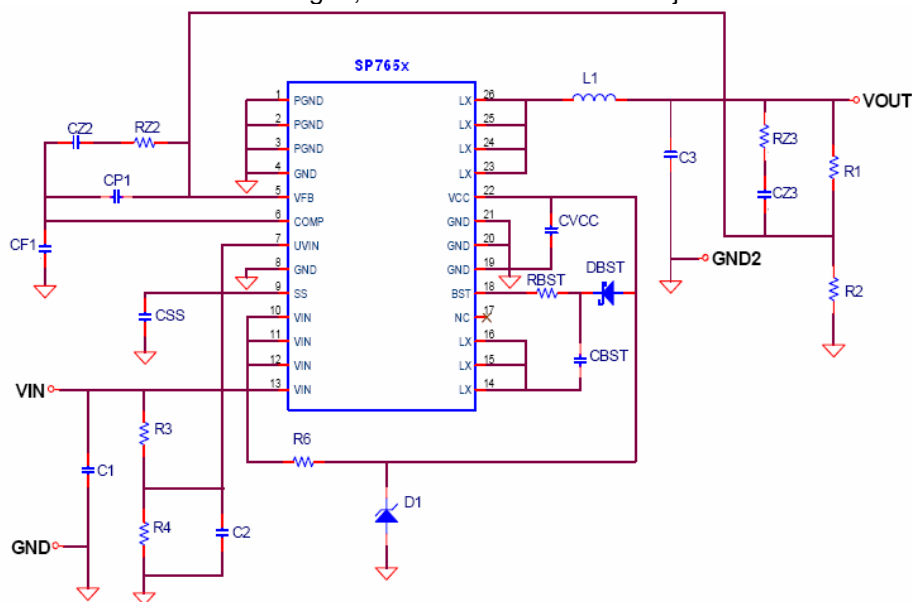
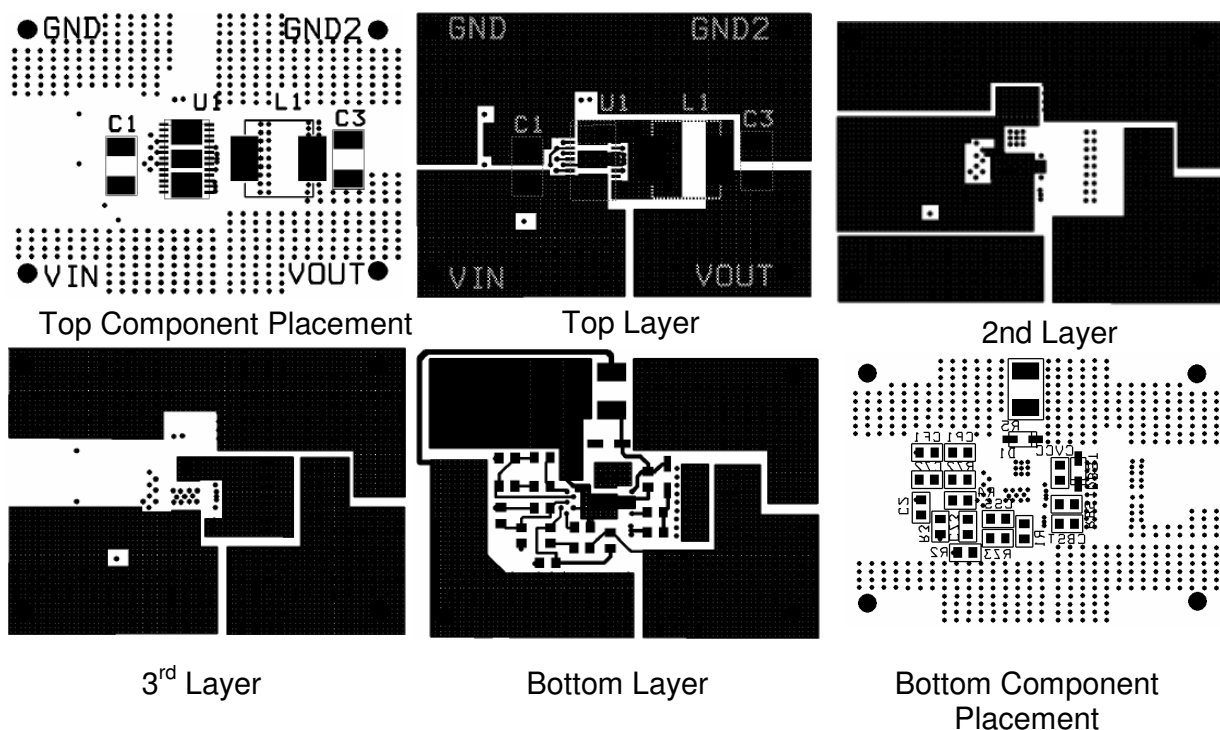

Figure 1 Typical PowerBloxTM Circuit
Figure 2 Example PowerBlox™ Layout (2 Sided Component Placement)
- 1) A typical application circuit is shown in figure 1. All components in the power path should be located on one side (which will be referred to as the topside) of the PCB, and as physically close as possible to the PowerBloxTM device. For PowerBloxTM designs these components are: Input Capacitors (connected between Vin and PGnd – C1 in Figure 1); Output Capacitors (connected between Vout and PGnd – C3); Inductor (L1); PowerBloxTM (SP765x) device. Note: If an additional Schottky diode and/or snubber network is used connected between LX and PgnD, these should also be subject to the same constraints.
- 2) All routing to and from the above components should be done on the topside of the PCB. The routing should be done by making local split topside planes for Vin, Vout, PgnD and LX or copper fills between the components (see example in Figure 2). Note: The use of vias in the power path is to be avoided.
- 3) If components are to be placed on both sides of the PCB then all feedback, compensation and bias supply passives should be on the bottom side of the PCB. Routing to these parts should also be done on the side on which they are mounted (see Figure 2). If an additional routing layer is available and required, then the layer closest to the bottom one is preferred. The path from the feedback resistor chain (R1 and R2 in Figure 1) should not be routed underneath the LX node or inductor.